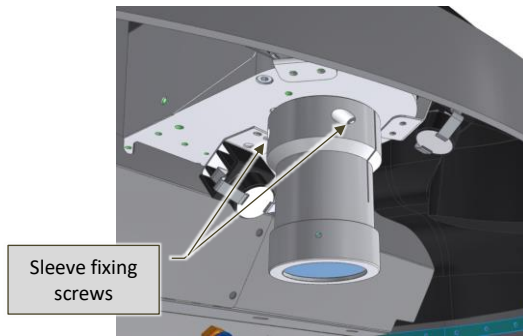
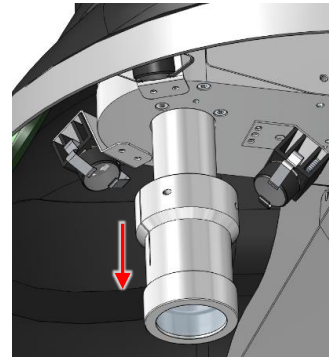

Fig. 9-4 – Preparation of the sleeve for the adjustment of the binocular (left side view)
Fig. 9-5 – Preparation of the sleeve for the adjustment of the binocular (right side view)
- Loosen the two locking screws of the sleeve (Fig. 9-4) e and lower it just enough to reach the adjustment screws around the optical canal (Fig. 9-5);